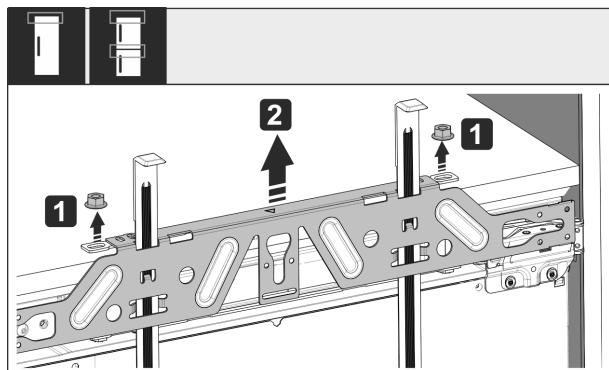

Fig. 54
- ▶ Loosen locknuts *Fig. 54 (1)*.
- ▶ Remove crosspiece *Fig. 54 (2)*.